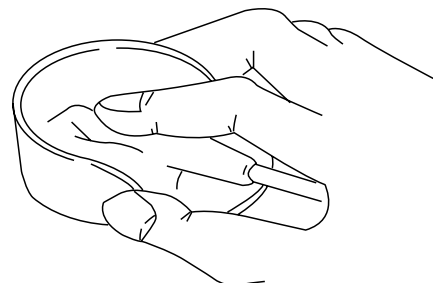

Fig. 3-5
- (5) Fit your forefinger over the projection at the center of the cap and hold the cap between your thumb and middle finger. (See Fig. 3-5)